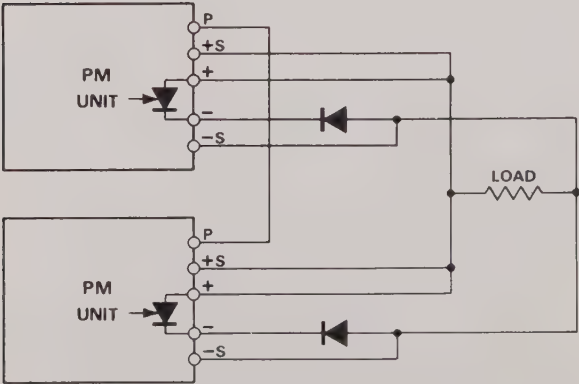

Fig. 6 Parallel Units with Overvoltage Circuits Fitted.
NOTE When units are connected in parallel the built-in thyristor of the optional overvoltage circuit in each unit must be made inoperative, because it is not possible to ensure that each thyristor will have an equal share of total current under fault condition unless connected as shown in Fig. 6. This is done by removing the gate connection of the thyristor either at the thyristor itself, or at the overvoltage PC board (terminal 3).
Units should be connected as shown in Fig. 6 under the conditions as follows:
- (d) Link the sensing terminal as shown in Fig. 6.